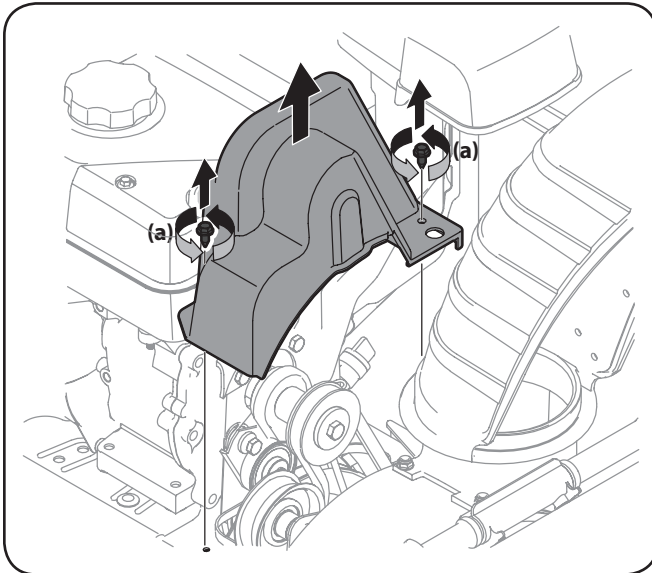

Figure 7-1
2. Remove the plastic belt cover on the front of the engine by removing the two self-tapping screws (a). See Figure 7-1.